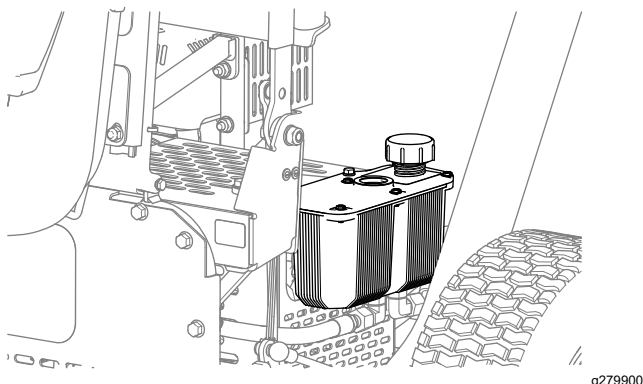

Figure 39
- Remove the hydraulic-reservoir cap (Figure 39).
- Install the reservoir cap (Figure 39).